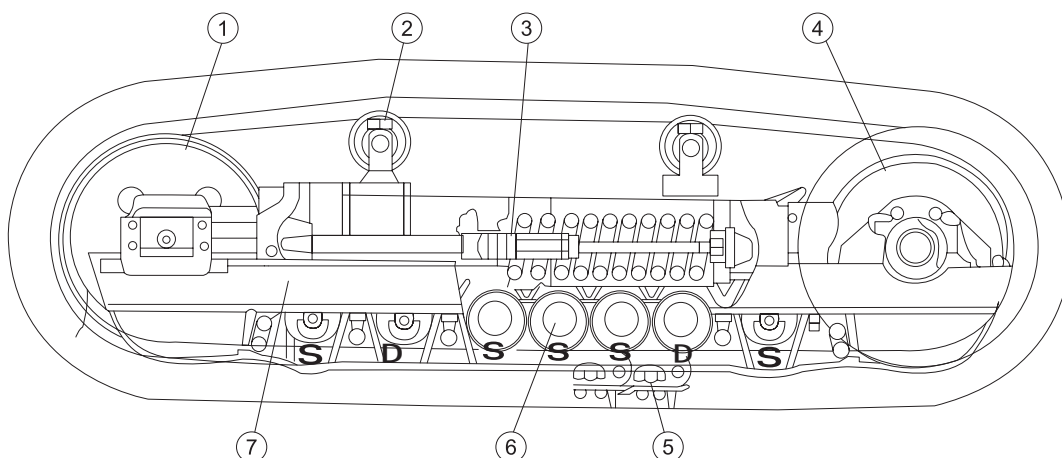

Figure 3-41: The walking mechanism of SD22
The walking mechanism (See Figure 3-41) mainly consists of the track frame (7), the driving wheel (4), the idler (1), the track roller (6), the carrier roller (3), as well as the track and the track tension device, to realize the walking of the bulldozer.